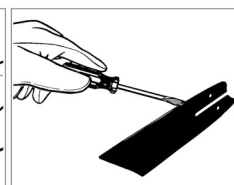

Fig. 15
2. Using a screwdriver, putty knife, wire brush or other similar instrument, clear residue from the rails on the guide bar. This will keep the oil passages open to provide proper lubrication to the bar and chain. (Fig. 15)